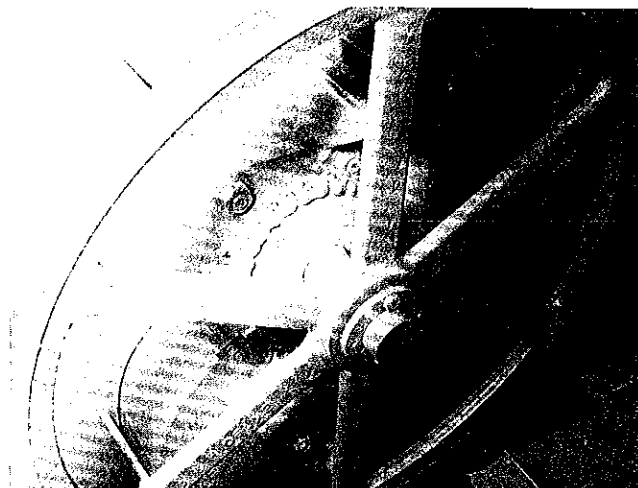

Figure 19 — Sheller Drive Pulley
32. Install large sheller pulley with tapered sleeve and hardware, Items 22, 23, 24, page 15, on to main sheller drive shaft. Use special key, Item 19, page 15, taped to shaft keyway. Use a long straight edge from the outside of the large sheller pulley to the outside of the pulley on the hammermill shaft. Align large pulley and tighten tapered sleeve. Do not over tighten or bolts will break off. Notch keyway to prevent key from slipping back. See Figure 19.